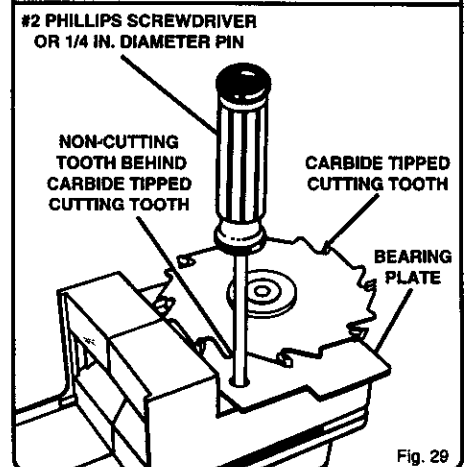

Fig. 29
8. With base assemblies removed, place plate joiner upside down on a workbench as shown in figure 29.